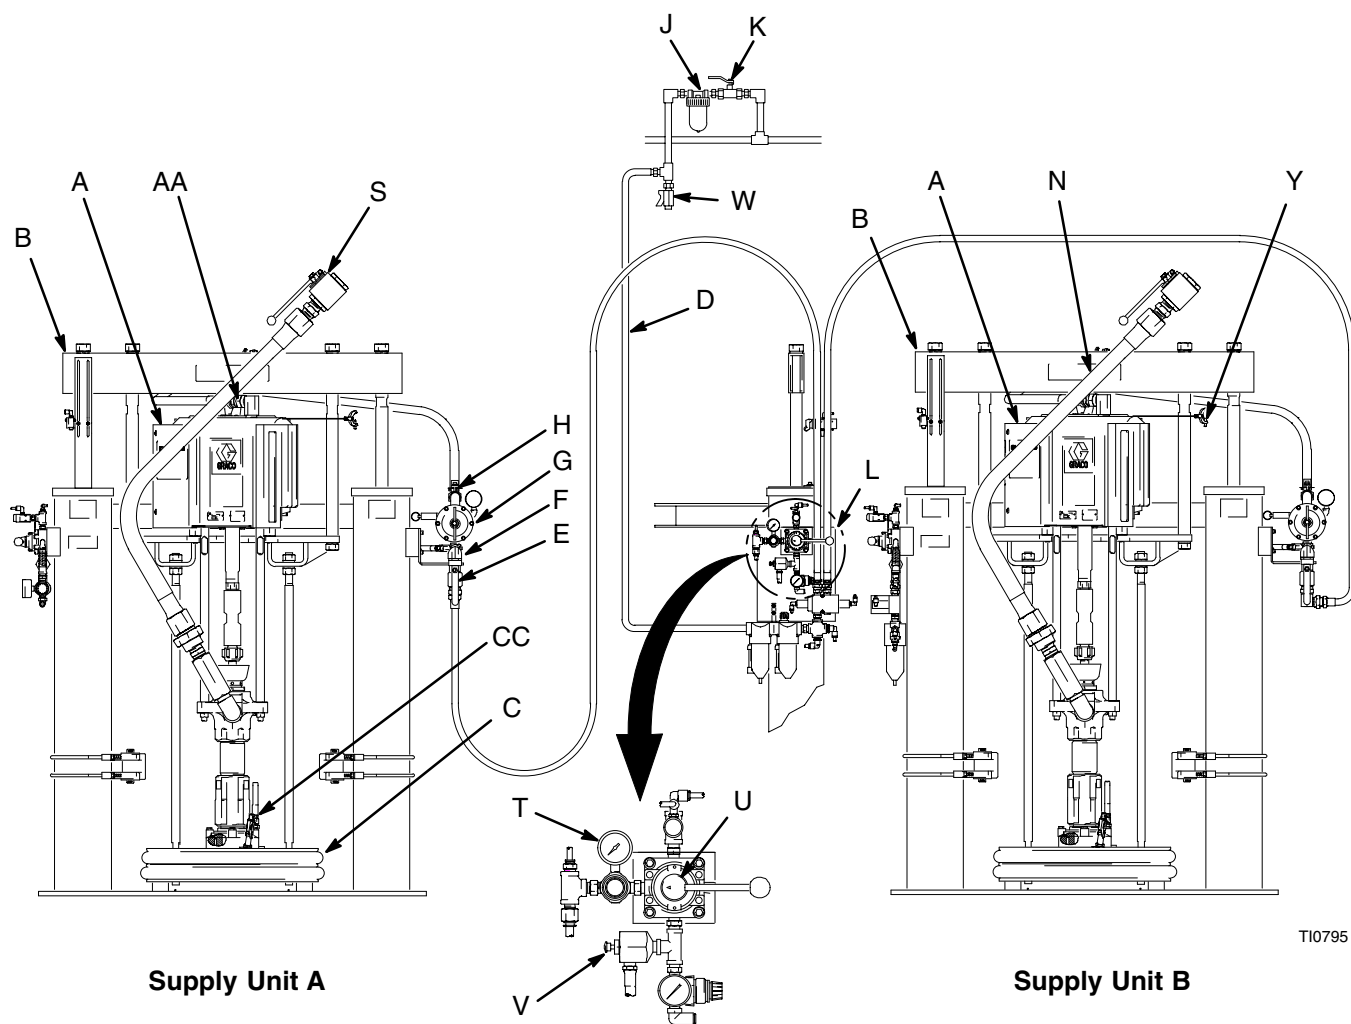

Fig. 1
System 970185 includes a dual supply unit with pneumatic crossover for continuous material supply. System 970187 is a single supply unit with a low-level shutoff. See Fig. 1.
Be sure all air hoses (D) and fluid hoses (N) are properly sized and pressure-rated for your system. Use only electrically conductive hoses. See Fig. 1.